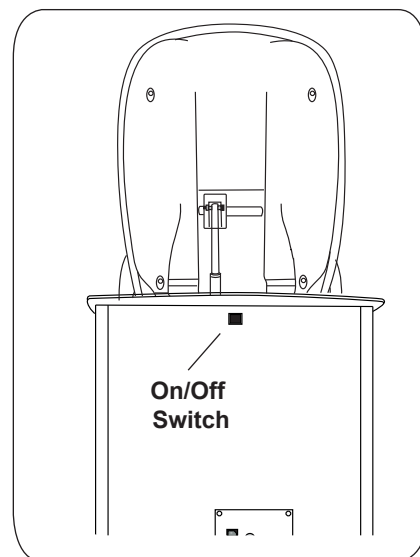

Figure 6. On/Off Safety Switch
9. Make sure the black On/Off Switch at the back of the table is on (Figure 6).